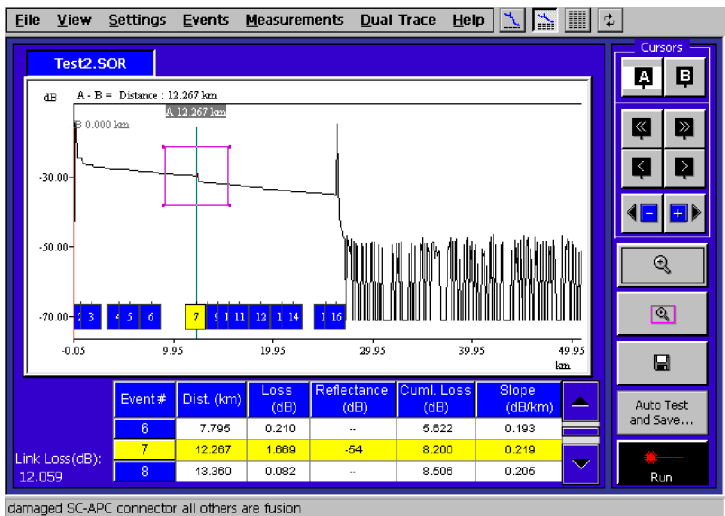

**Figure 2-15: Sample file test2.SOR shows a worn angle-polished connector (Event 5) and several fusion splices**
- 7. Look at the 16 events. You will see something similar to Figure 2-15.
In the sample file, Test2.SOR, events 1 and 16 represent the beginning and ending of the fiber, respectively. All the other events are fusion splices except event 7, which is an angle-polished splice. Usually angle-polished splices have no reflectance. In this case, however, the ends are worn. This damage accounts for the large amount of reflectance you see in Figure 2-15.